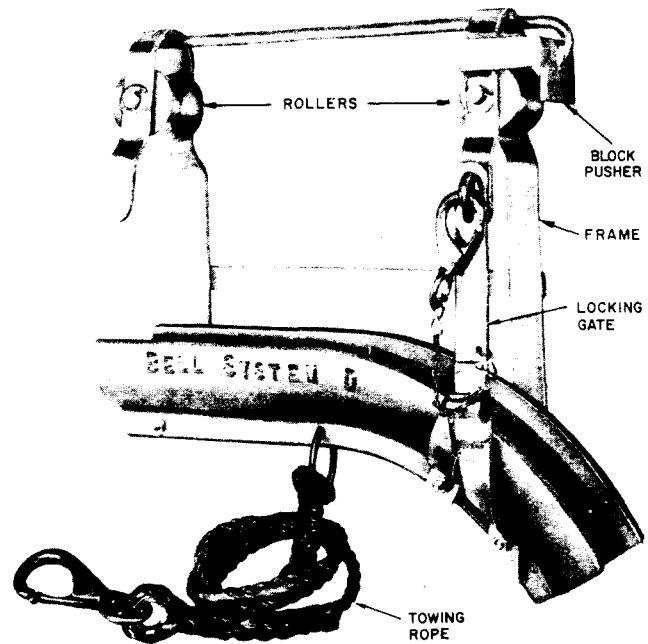

Fig. 3 — D Cable Guide
2.07 The D Cable Guide (Fig. 3), which weighs 15 pounds, consists of a curved aluminum shoe casting with a steel insert for wear protection. The shoe guides the cable to its position at the suspension strand and may be used also when lashing cable to an existing cable and strand. The shoe is supported on the strand by a steel frame which is equipped with a locking gate, a cable block pusher, and two steel rollers. A towing rope equipped with a swivel eye snap hook is attached to a ring under the guide.